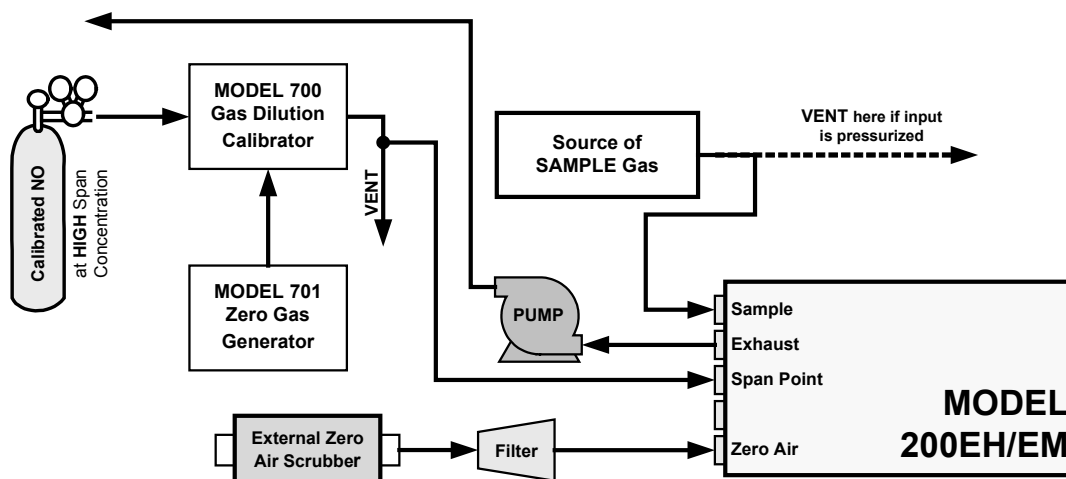

Figure 3-11: Pneumatic Connections—With Zero/Span Valve Option (50)
If your analyzer is equipped with either the zero/span valve option (50) or the 2-span point valve option(52), the pneumatic connections should be made as shown in figures 3-11 & 3-12: